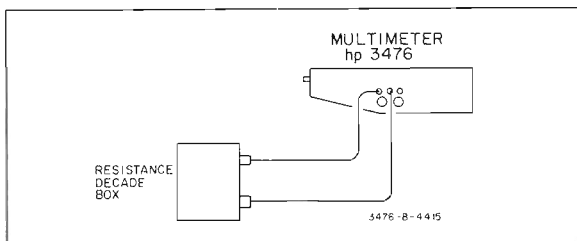

Figure 5-2. Ohms Accuracy Test.
b. Remove the short and connect the equipment as shown in Figure 5-2. Use large wire and connect the decade box as close as possible to the Multimeter. When checking the 11,000 $k\Omega$ range, connect the COM terminal to a good earth ground.